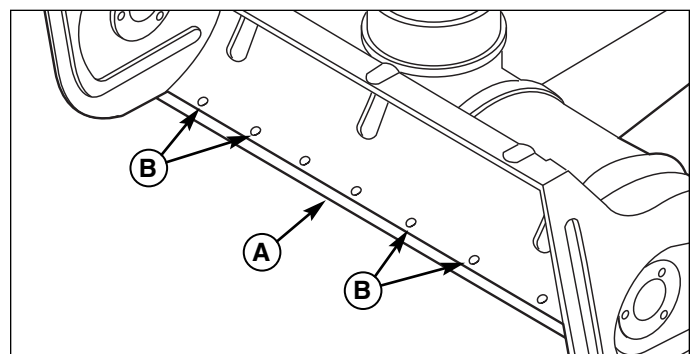

Figure 9. Scraper Bar Adjustment
3. Inspect location where scraper bar (A, Figure 9) meets snowthrower housing.
5. Remove scraper bar (A, Figure 9).